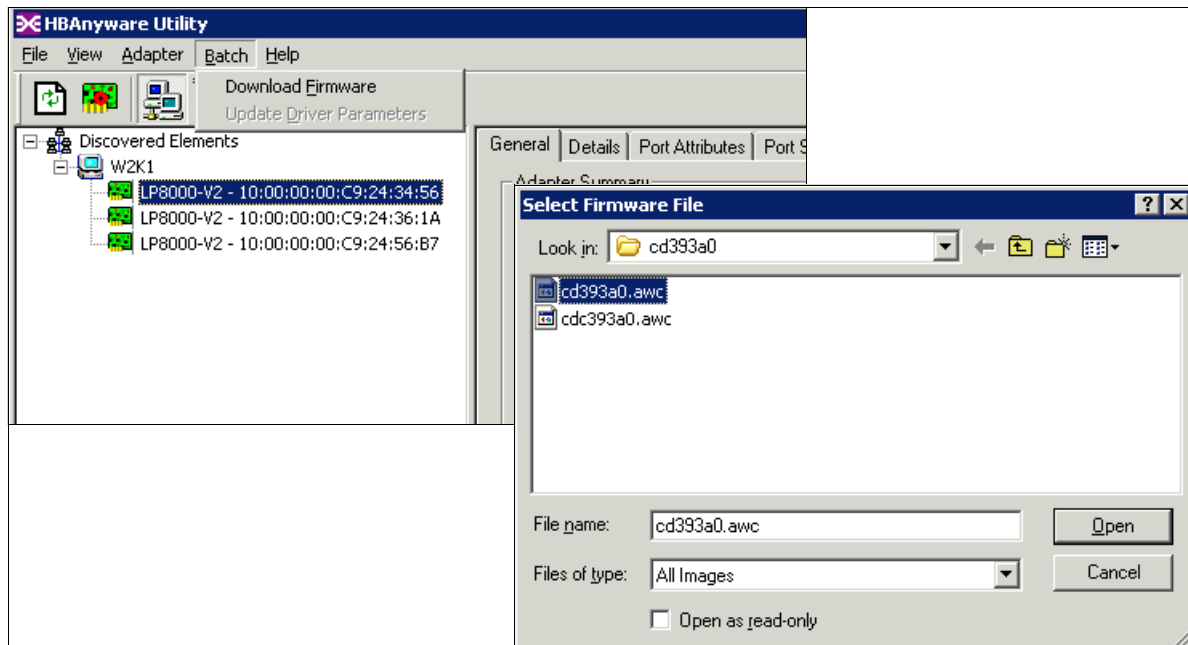

Figure 5-29 HBAAnyware: Download firmware
2. In the discovery-tree (left pane), click the HBA entry you want to update. In the menu bar, click **Batch** and select **Download Firmware** (see Figure 5-29).
3. A Select Firmware File window appears (Figure 5-29). Select the firmware you want to update and click **Open**.